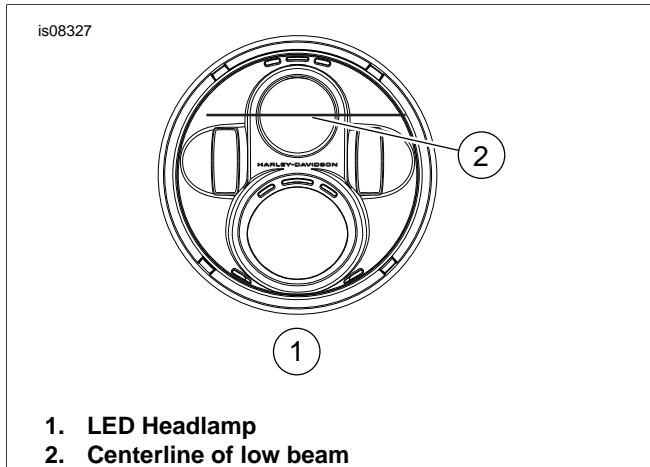

Figure 1. LED Headlamp Configuration
5. See Figure 1. Draw a horizontal line on the wall at (5) on the wall that is the same measurement as recorded in Step 4.
6. Draw a vertical line (2) off the perpendicular line (1) so it crosses through the horizontal line drawn in the previous step.